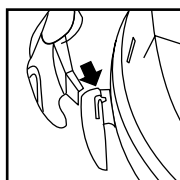

FIGURE 16
23. Press tabs of tool holder into the slots on mounting lugs on rear of tank cover. **FIGURE 16.**